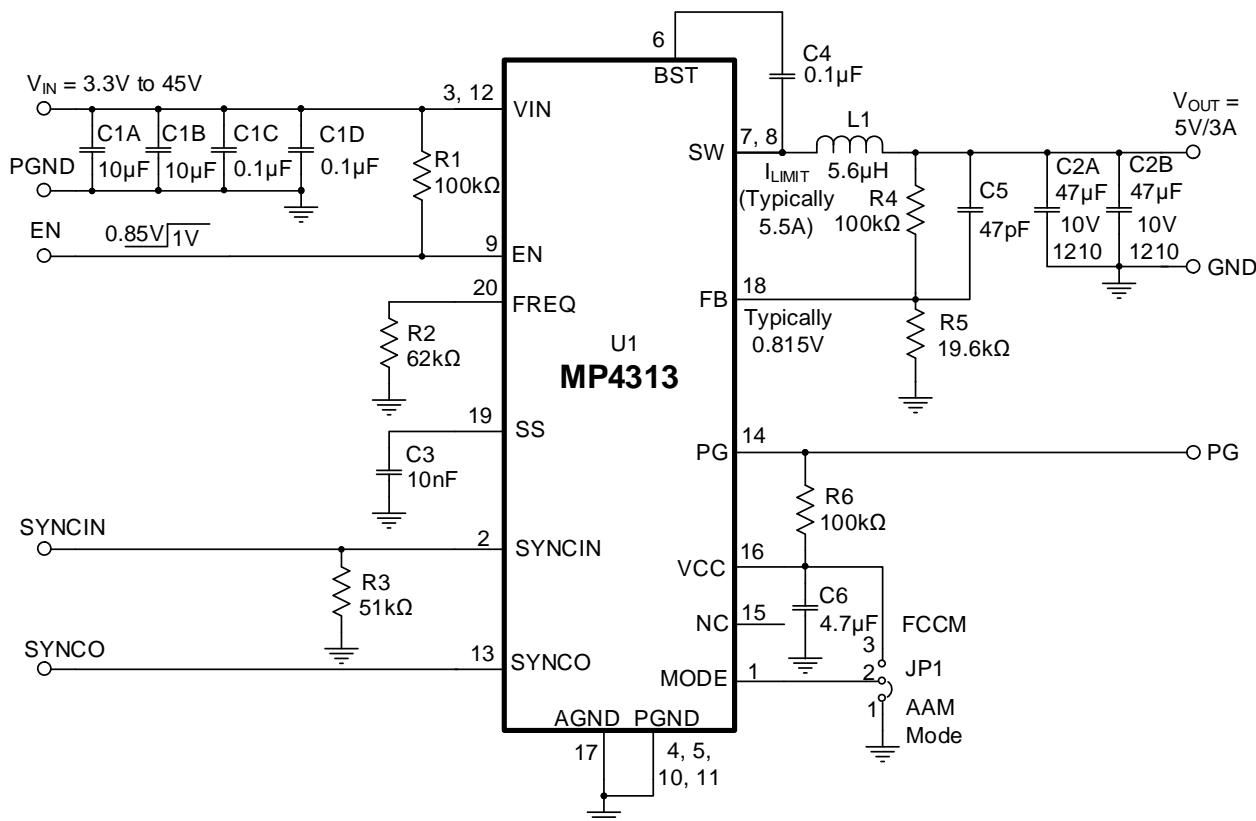

Figure 10: Typical Application Circuit ($V_{OUT} = 5V$, $f_{SW} = 470\text{kHz}$)
10) The recommended PCB layout is based on Figure 10 on page 32.